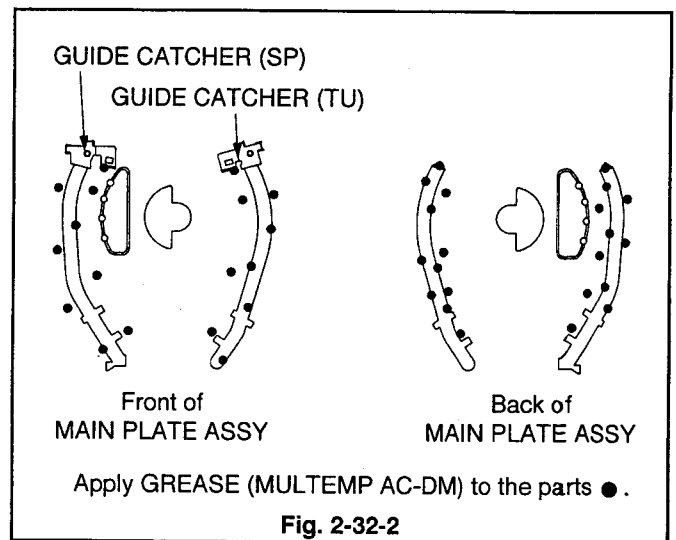

Fig. 2-32-2
1. Apply GREASE (MULTEMP AC-DM)[859D055O90] to the parts on the MAIN PLATE ASSY specified in the Fig. 2-32-2.